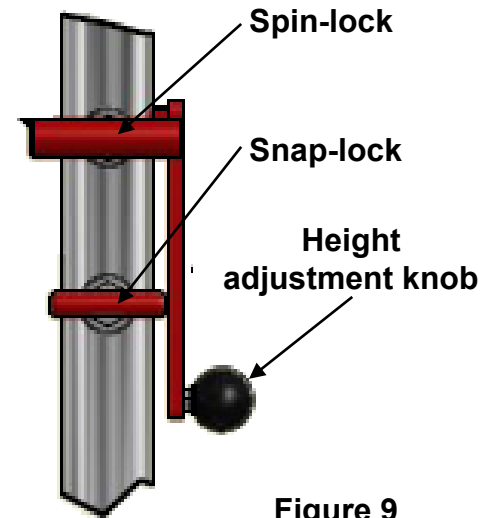

Figure 9
1. To adjust the Height of the Rail, see **Fig. 9** and proceed as follows: